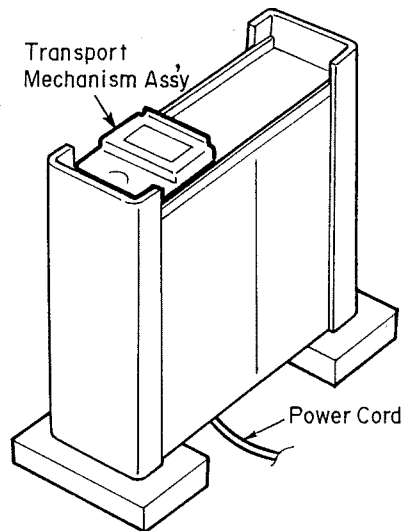

Fig. 6.13
3. Firmly place the N-1000 vertically. Use blocks to protect the power cord. See Fig. 6.13.